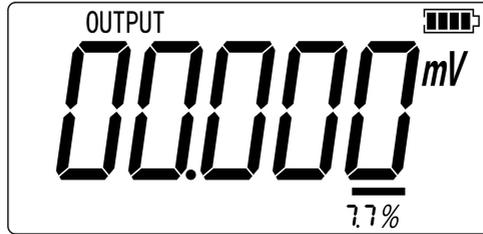

Figure 2.1-5
- Press to enter into DC mV output mode as shown in Figure 2.1-5.